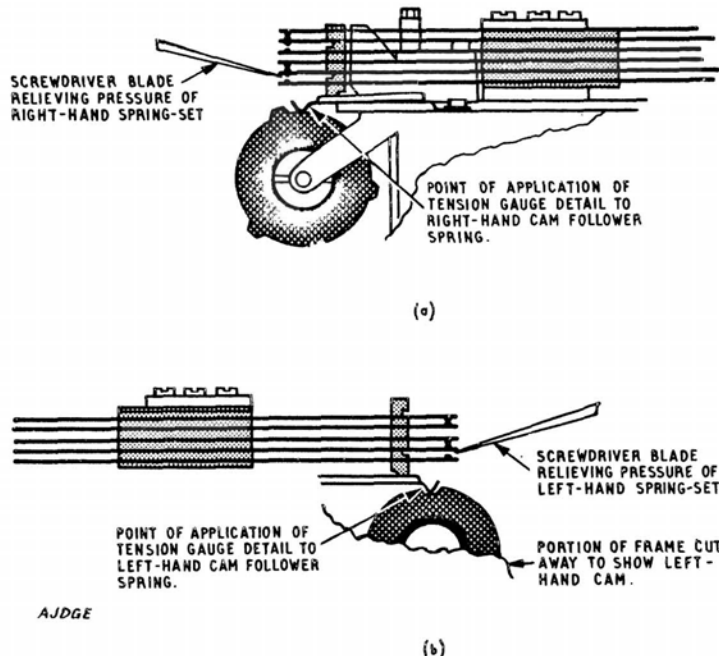

FIG. 8
**15. Cam-follower springs.** Each cam-follower spring should remain in contact with the cam periphery on all steps, exerting a pressure of 15 gm maximum on those portions of the cam between cam risers. This pressure is measured at the bend adjacent to the 'V' tip, with the comb-operated spring-set tensions relieved [see Figs. 8(a) and (b)].